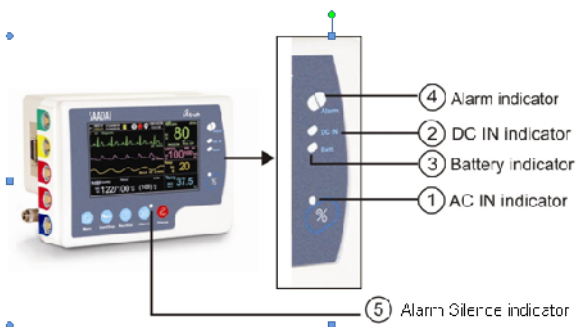

Figure1-2 Indicators
There are five indicators for power, alarm, battery and alarm silence on the front panel of the system. The green indicator lights, when the device is powered on (Figure 1-2^①), the battery indicator is green when the battery is fully charged otherwise it is orange (Figure 1-2^③). The alarm indicator flashes when an alarm occurs (Figure 1-2^④). If alarm indications are disabled for an unlimited period of time, alarm indicator flashes red.
(Figure 1-2^⑤)